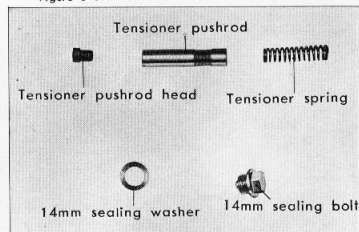

Figure 3-60. Component parts of cam chain tensioner
- (1) Assemble the cam chain tensioner component parts. (Fig. 3-60)